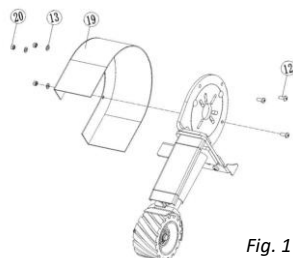

Fig. 1
1. Assemble the protective shield (#19) using the hex nuts (#20), flat washers (#13) and pan-head screws (#12). Make sure the screws are properly tightened (Fig. 1).